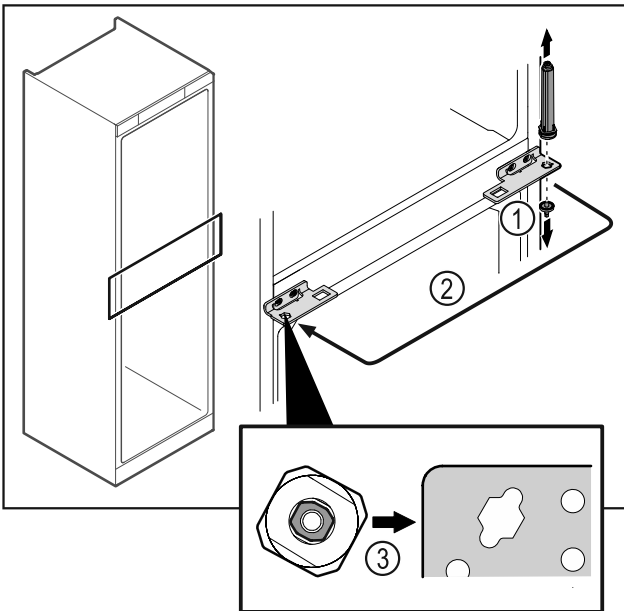

Fig. 51
- ▶ Unscrew the hinge pin Fig. 51 (1).
- ▶ Move the door closing system Fig. 51 (2).
- ▶ When inserting, make sure that the door closing system Fig. 51 (3) is aligned correctly.